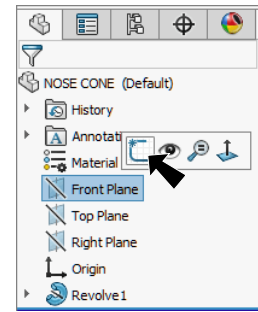

Fig. 10
Step 1. Click **Front Plane**  in the Feature Manager and click **Sketch**  on the content toolbar, **Fig. 10**.